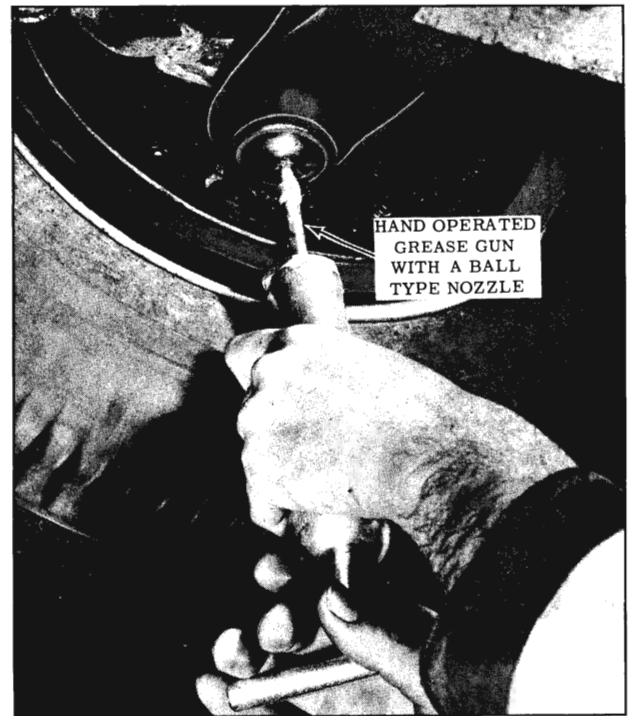

Fig. 5-9 Adding Lubricant to Ball Joint
6. Hold tip of grease gun firmly into lubrication hole and install correct amount of grease by counting the number of "turns" or "pumps". (Fig. 5-9)